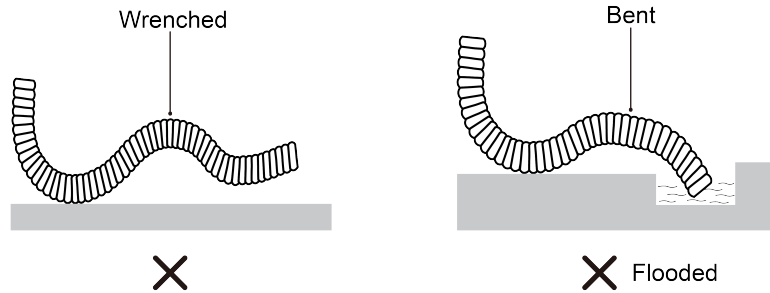

Fig. 4.3
- (1) For proper draining, the drain hose should be placed at a downward sloping.
- (2) Do not wrench or bend the drain hose or flood its end by water. (Fig. 4.3)
- (3) Wrap the drain hose with heat resistant material.
- (4) It is not allowed to connect the condensate drain pipe into waste pipe or other pipelines which are likely to produce corrosive or peculiar smell to prevent the smell from entering indoors or corrupt the unit.
- (5) It is not allowed to connect the condensate drain pipe into rain pipe to prevent rain water from pouring in and cause property loss or personal injury.
- (6) Condensate drain pipe should be connected into special drain system for air conditioner.